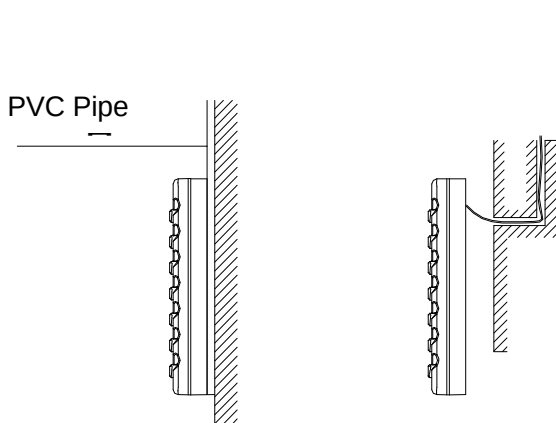
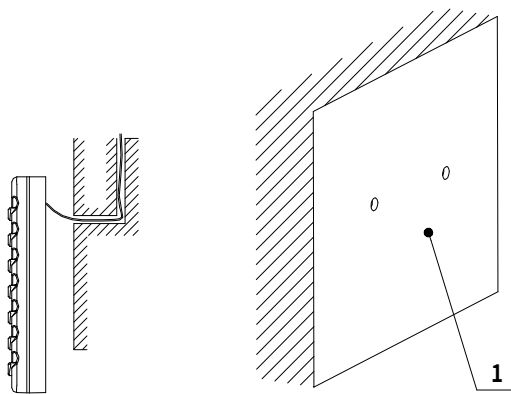

Fig 6 Surface Mounting of Cable
Fig 7 Concealed mounting of Cable
Connect the joints for swing flap motor lead wire(at 2 places) installed on the panel (Refer to Fig.7)
- 2、 If the communication line between the wire controller (85×85×16) and the indoor unit is surface-mounted, use 1# PVC pipe and make matching recess in the wall (refer to Figure 6); If concealed installation is adopted, 1# PVC pipe can be used (Refer to Figure 7).